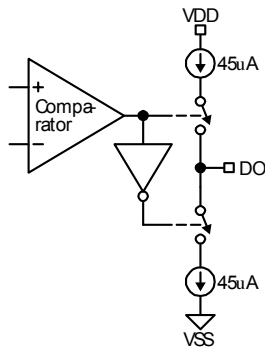

Figure 4. DO Pin
The output stage for the digital output (DO) is shown in Figure 4. The output is a 45 μ A push and 45 μ A pull switched-current stage. This output stage is capable of driving CMOS loads. An external buffer-driver is recommended for driving high capacitance loads.